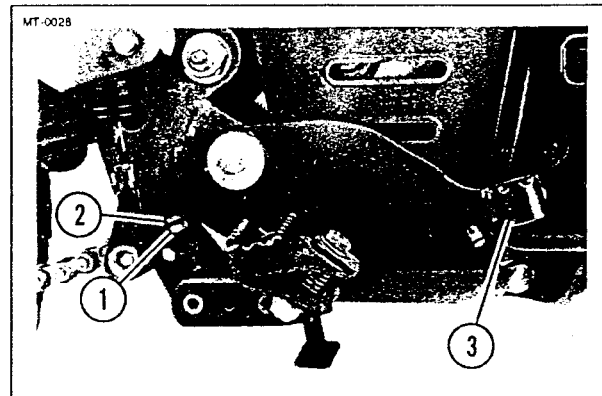

Figure 5-77. Rear Brake Pedal Height Adjustment
1. See Figure 5-77. Loosen lock nut (1) and adjust stop screw (2) until brake pedal (3) is at desired height. Tighten locknut (1).